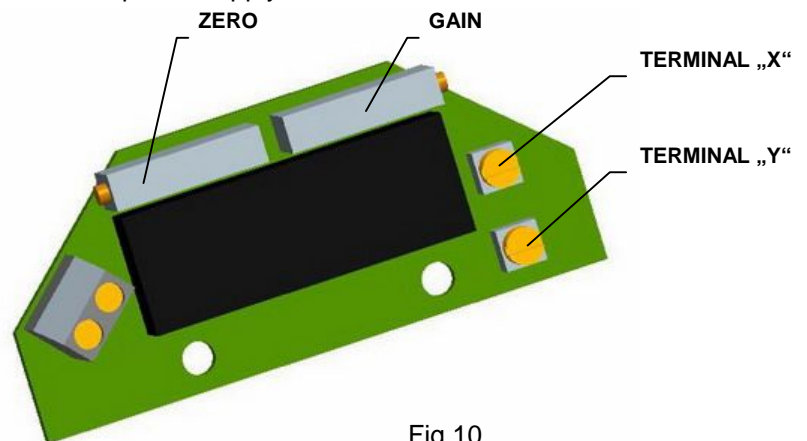

Fig.10
#### EPV – the 2-wire version (Fig. 10)
- Adjust the resistive transmitter according to the previous chapter. The resistance is to be metered on the terminals X-Y (Fig. 10). The used transmitter resistance is 100 Ω.
- Turn the adjusting trimmer ZERO (Fig. 10) to adjust the output current signal rate measured on the terminals 81-82 to 4mA.
- Turn the adjusting trimmer GAIN (Fig. 10) to adjust the output current signal rate measured on the terminals 81-82 to 20mA.